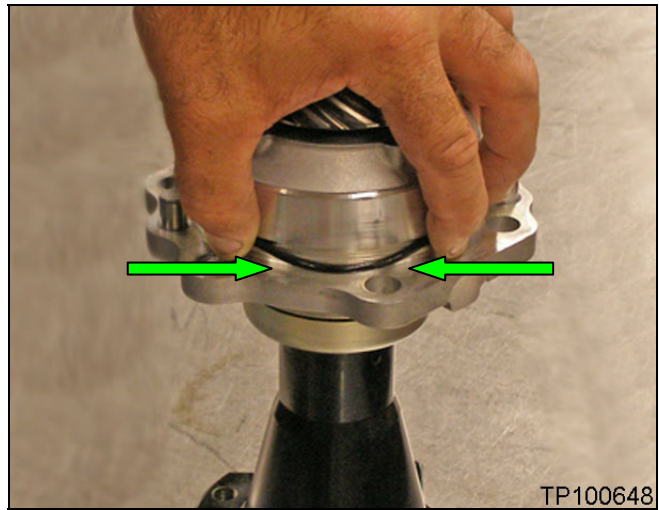

Figure 3
6. Remove the pinion sleeve's O-ring seal by pinching inward, and then pulling it off (see Figure 3).